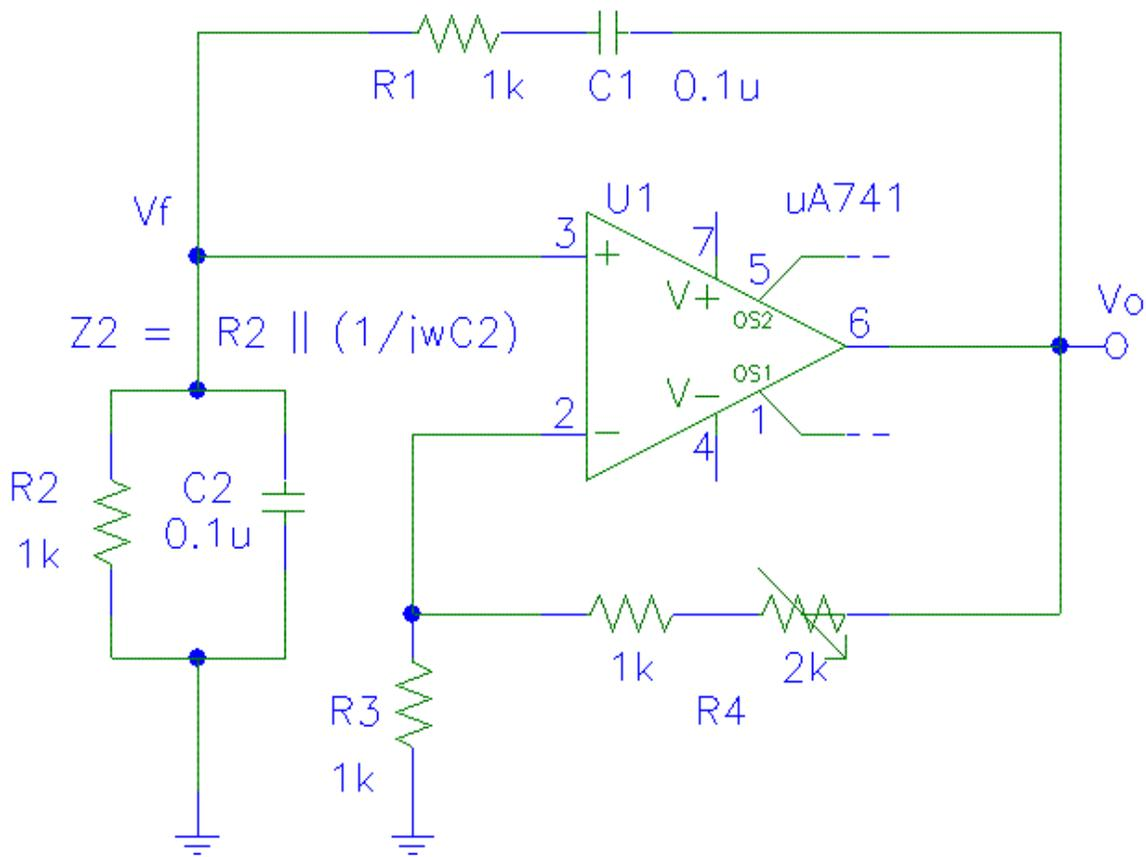
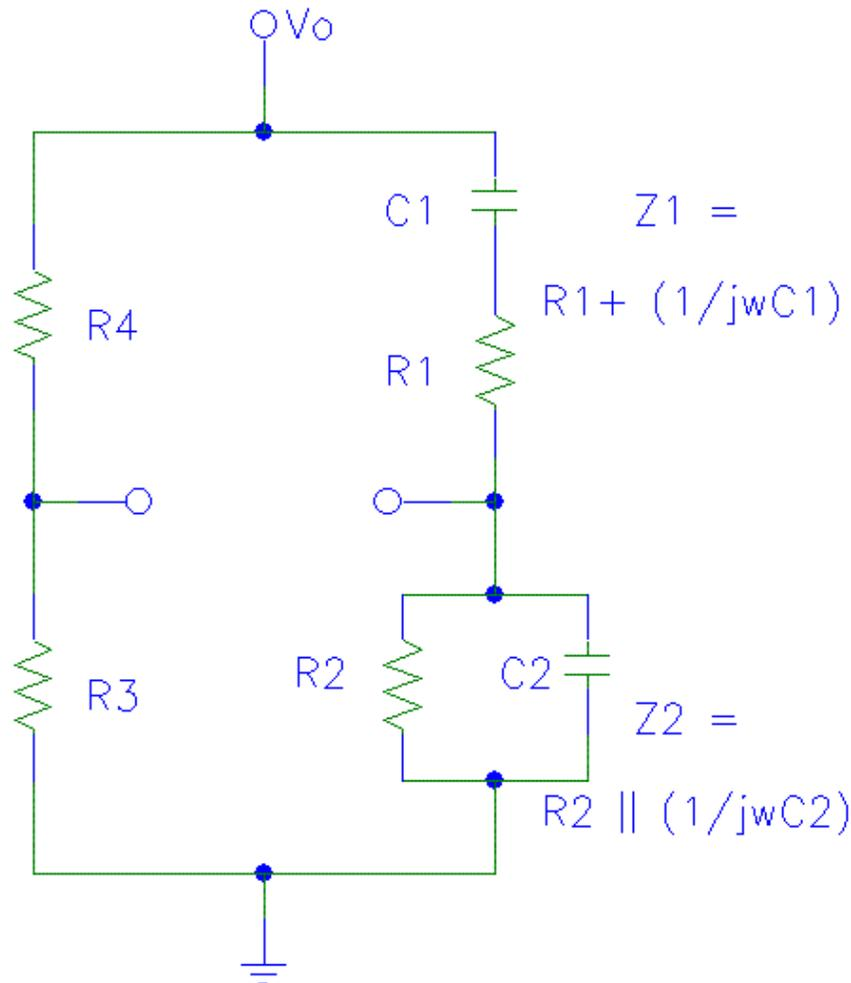

Figure 3
Figure 4
An oscillator circuit in which a balanced bridge is used as the feedback network is the Wien-bridge oscillator shown in figure 3. The "bridge" is clearly indicated in figure 4.
The four arms of the bridge are Z1, Z2, R3 and R4. The input to the bridge is the output  $V_o$  of the op. amp., and the output of the bridge between nodes 1 and 2 supplies the differential input to the op. amp. There are two feedback paths in figure 3, positive feedback through Z1 and Z2, whose components determine the frequency of oscillation, and negative feedback through R3 and R4, whose elements effects the amplitude of oscillation. The loop gain is given by  $-b A$  where:
- Verify equations (1) and (2)
- Verify equations (3), (4), and (5)
- Calculate the value of R4 in figure 3, which will just produce oscillation.